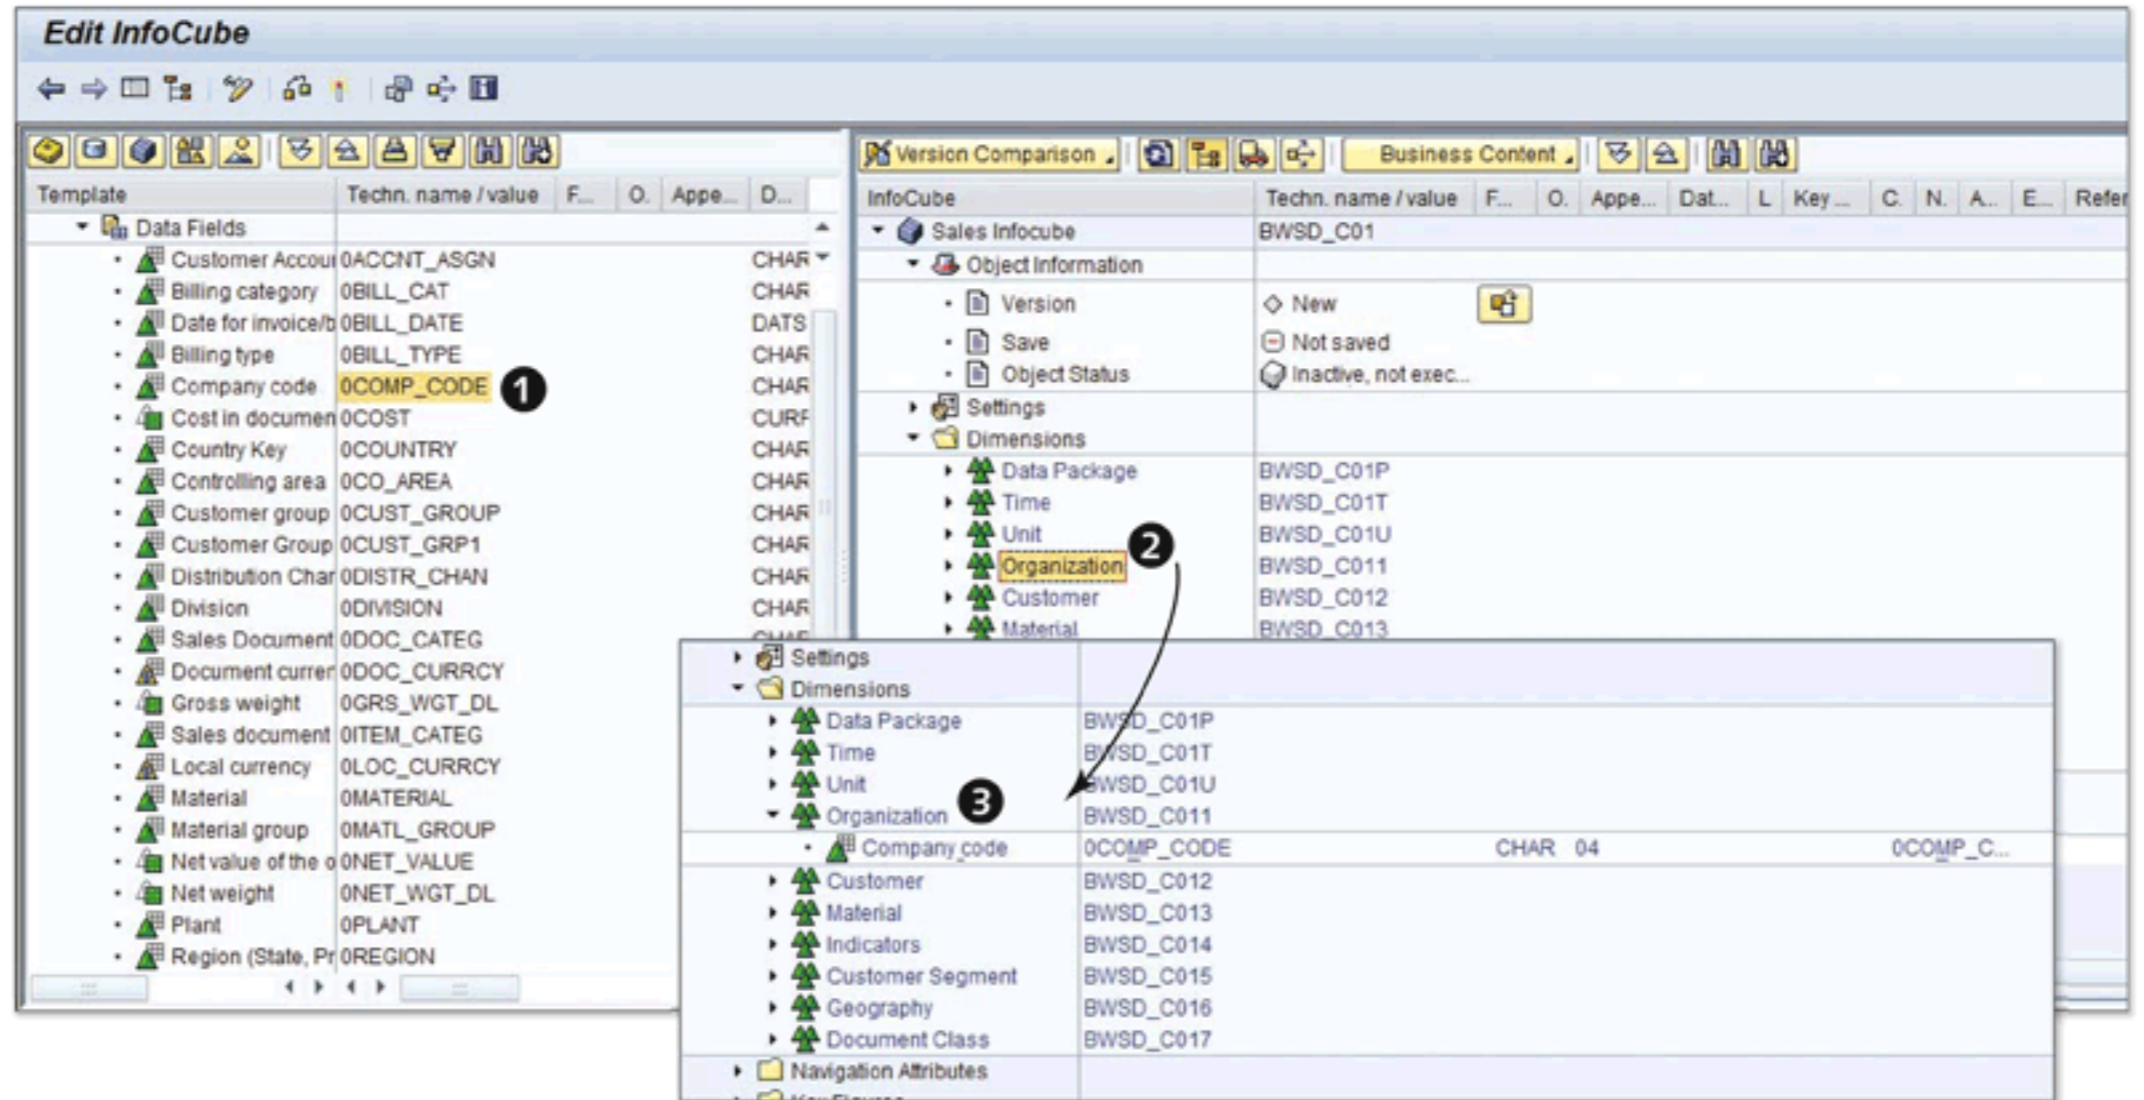

Figure 5.16 Attaching Characteristics Using a Template
As shown in Figure 5.16, using the DSO BWSD_O01 template gives you an already-populated list of InfoObjects.
Let's assign a few InfoObjects from this list as characteristics to the dimensions of the InfoCube. Select the InfoObject—0COMP_CODE (1 of Figure 5.16)—and drag and drop it over the dimension, ORGANIZATION (2). With this action, you assign the selected characteristic to the desired dimension (3). To state this in SAP NetWeaver BW terminology, characteristic 0COMP_CODE is assigned to the organization dimension.